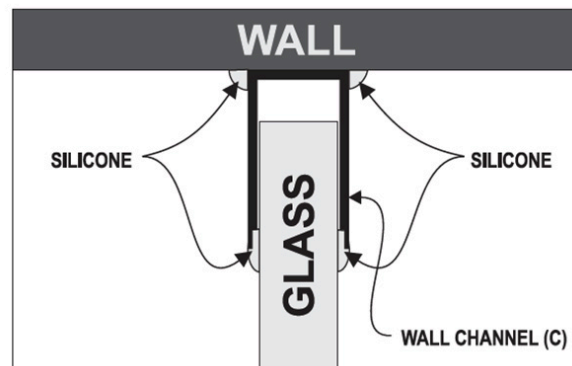

FIGURE 23
Silicone the Glass Panel (P) in place by applying an even bead inside troughs on both sides of Wall Channel (C) and Curb Channel (D) as well as where the wall channel and curb channel meet the wall and base. (See Figure 23)